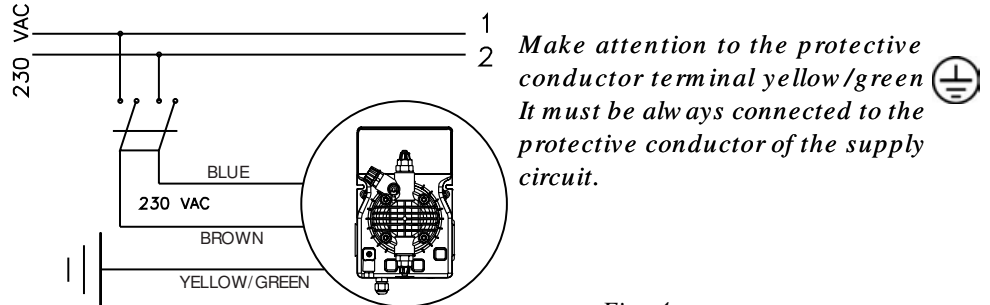

Fig. 4
1. *Disconnect the pins from the mains or by means of a two poles switch with 3 mm minimum distance between the contacts. (Fig. 4).*
- b. - Carefully observe the regulations in force in the various countries as regards electrical installations (Fig.4). When the supply cable is devoid of a plug, the equipment should be connected to the supply mains by means of a single-pole circuit breaker having a minimum distance of 3 mm between the contacts. Before accessing any of the electrical parts, make sure that all the supply circuits are open.